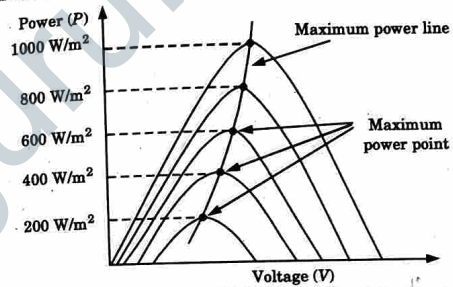

Fig. 3.20.2. P-V characteristic of a PV module.
3. On the paper of these graphs, maximum power points are shown in Fig. 3.20.2.